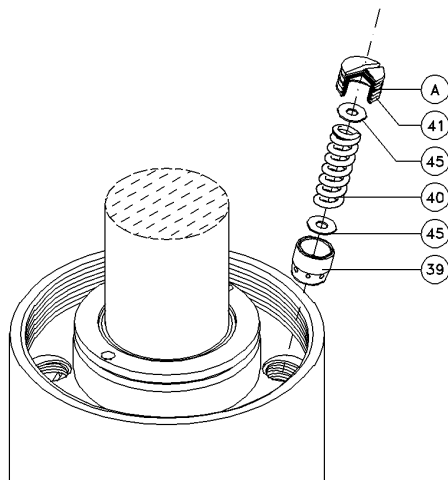

Figure 6-28; Damping valves
Reinstall the correct combinations of the valve seats (38), valves (39), spring coils (40), distance washers (45) and set screws (100) in the various damping valves (Figure 6-28).